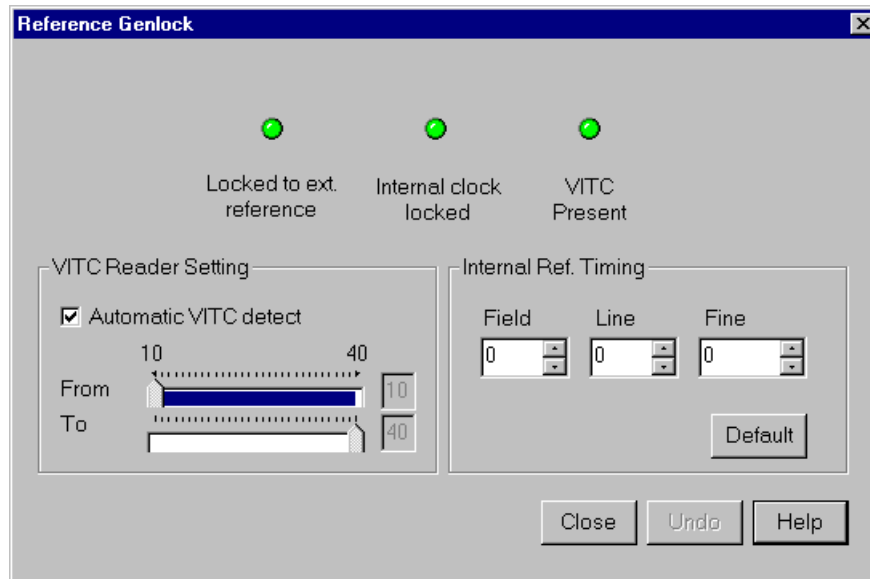

Figure 10. Reference Genlock dialog box
1. Click or double-click **Genlock** from the configuration tree and the Reference Genlock dialog box appears (see Figure 10).